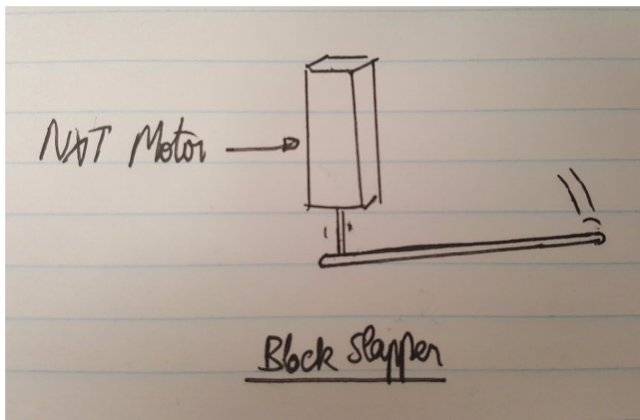

Figure 2 : Diagram of the Block Slapper
- Using an additional motor, we could implement a “block slapper” that would move blocks that are of the wrong color outside of the search area. This would prevent looking at the same block multiple times. See **Figure 2**.